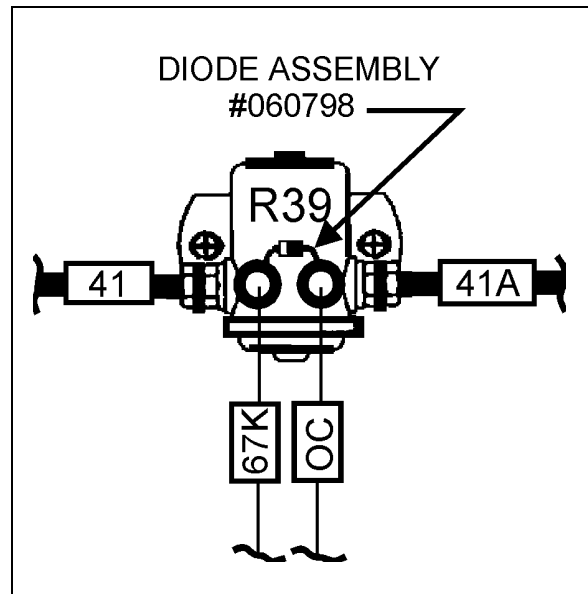

FIGURE 5
7. Strip extremity of wire #41, crimp a ring terminal (#561246) then connect to relay R39 as illustrated in figure 5. Tighten nut to 40 lbf•in maximum.
9. Position diode assembly (#060798) on relay R39 as illustrated in figure 5, strip extremity of wire #67K, crimp a ring terminal (#560815) then connect to relay R39. Tighten nut to 20 lbf•in maximum.
Caution: Ensure to correctly position diode assembly as illustrated in figure 5.